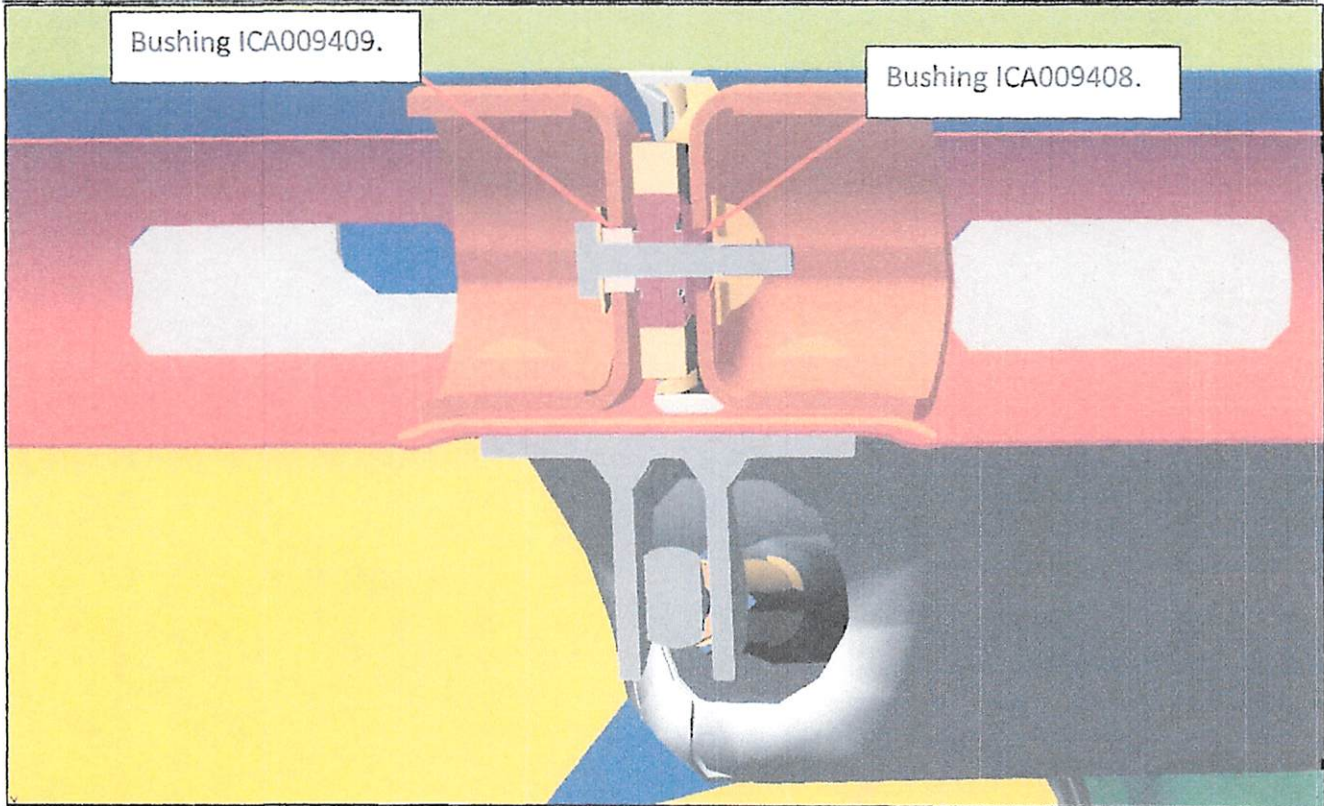

Figure 1: Hardware stack.
2. Inspect all bushings for serviceability (bushings identified in Figure 1). Replace any unserviceable bushings.